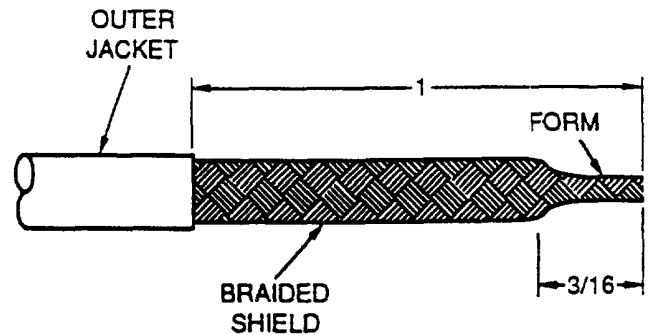

Figure 20. Strip Shield Cable
a. Cut cable end square with wire/cable cutters as shown in Figure 20. Remove 1-inch of outer jacket and push braided shield back to expose insulation of center conductor. Strip 3/16-inch of insulation from center conductor. Slide braided shield back in place and form end to aid in sleeve installation.
a. As shown in Figure 20, cut cable end square with wire/cable cutters. Remove 1-inch of outer jacket and push braided shield back to expose insulation of center conductor. Remove (strip) 3/16-inch of insulation and center conductor. Slide braided shield back in place and form braided shield to aid in sleeve installation.
back to expose insulation of center conductor. Remove 3/16-inch of insulation and center conductor. Slide braided shield back in place and form end to aid in sleeve installation (Figure 20).